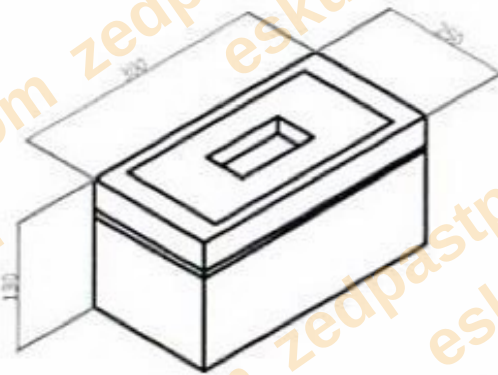

Figure 7
- (b)** The drawing in **figure 7** shows a wooden box made by a Grade 7 learner which he wants to use for keeping coins.
(b)(i) Which fixing the Grade 7 learner would use on the coin box (Figure 7) [2]